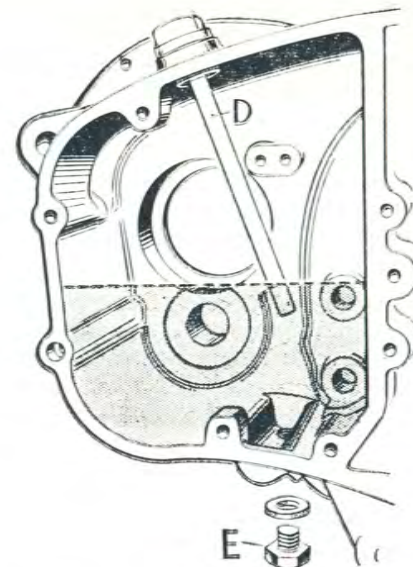

FIG. 23.
Apart from topping-up at regular intervals, very little maintenance should be required. The filler plug carries a dipstick (D) Fig. 23, and the oil level should be maintained at the mark on the stick.
To drain the oil, which should preferably be undertaken while the oil is warm after a run, unscrew the drain plug (E) Fig. 23, below the case. When replacing, make sure that the sealing ring is in good